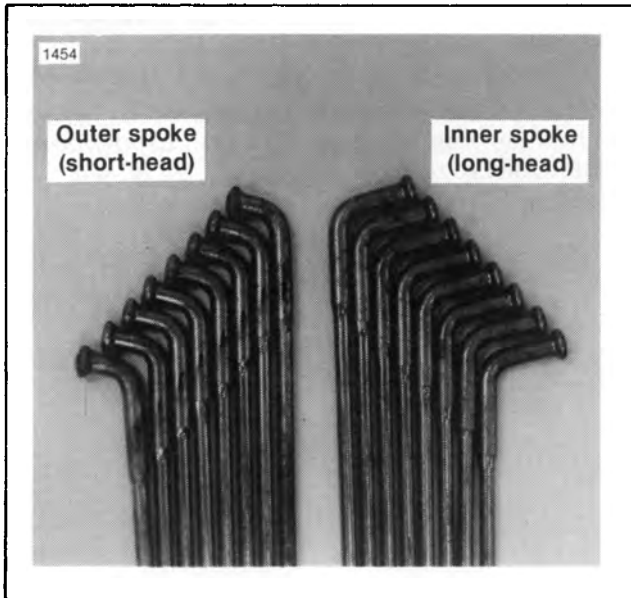

Figure 2-15. Spoke Identification
1. See Figure 2-15. Divide spokes into two groups. Inner spokes have long heads, outer spokes have short heads. There are also fine and coarse threaded spokes and nipples. Match up fine-threaded spokes with fine-threaded nipples and coarse-threaded spokes with coarse-threaded nipples. Do not intermix the thread patterns.
1. See Figure 2-15. Divide spokes into two groups. Inner spokes have long heads, outer spokes have short heads.